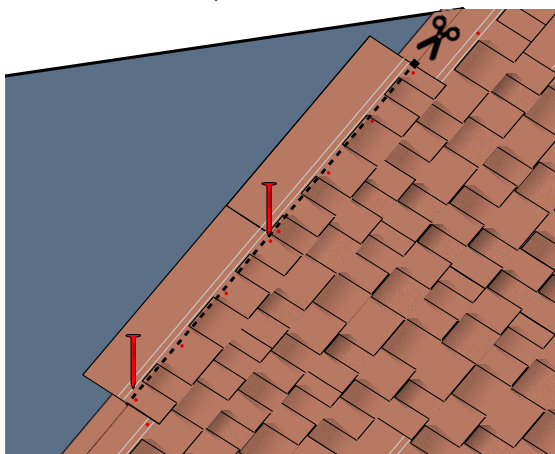

Fig. 12 - Shingles installation at the ridge
- Alternatively, or if the part of the Master shingle protruding beyond the ridge line is the double-layer section of the tile, cut the excess part of the tile along the ridge line - Fig. 12.